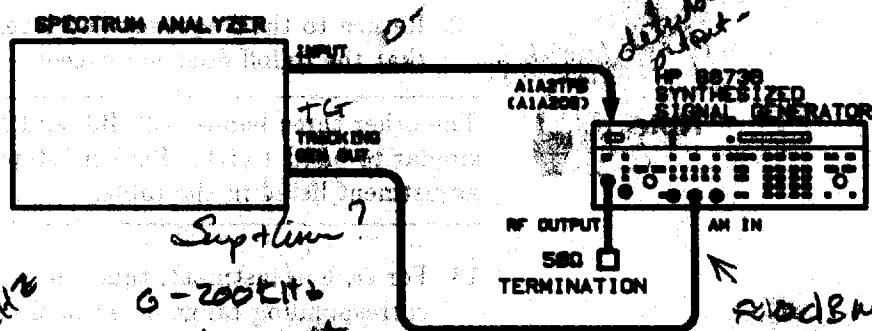

Figure 5-31. AM Bandwidth Adjustment Test Setup.
1. Connect the equipment as shown in figure 5-31.